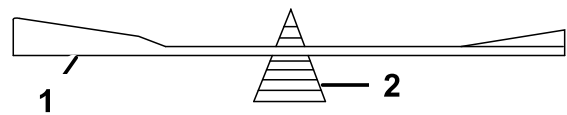

**Figure 88**
1. Use a file to sharpen the cutting edge at both ends of the blade (Figure 88).
**Note:** If the blade is not balanced, file some metal off the end of the sail area only (Figure 88).